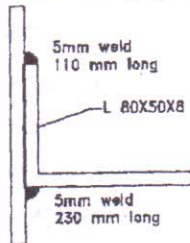

fig. 1
b) Find out the design tensile strength of angle ISA 80 × 50 × 8 connected to gusset plate with shorter leg by 5mm weld as shown in fig.1. [12]